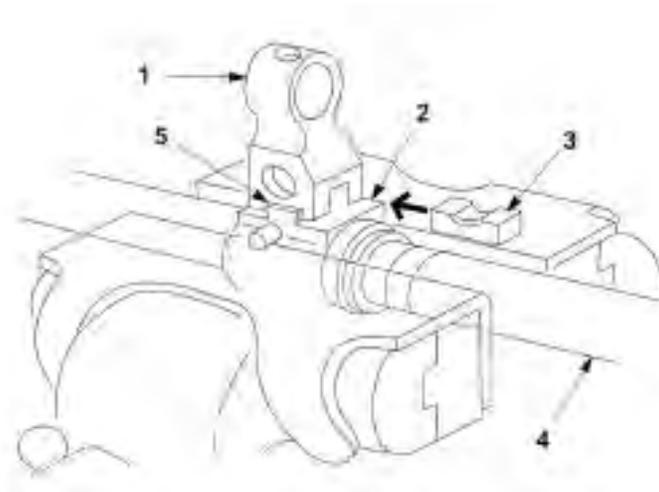

Figure 15. Alignment of Sight Key.
1. Place barrel (Figure 15, Item 4) in a protective jawed vise, clamp in gas block area (Figure 15, Item 2) with the front sight portion up.
2. Center front sight base (Figure 15, Item 1) so one serration (Figure 15, Item 5) is visible each side of front sight base (Figure 15, Item 1). Install key (Figure 15, Item 3) with the large chamfered (beveled) edge to the left side of sight.